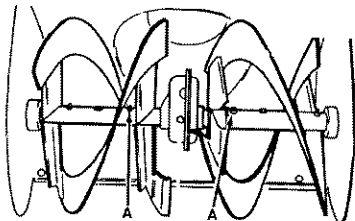

Figure 27
1. **Auger Shaft** - Using a hand grease gun, lubricate the auger shaft zerck fittings (**A**) every ten (**10**) operating hours. Each time a shear bolt is replaced, the auger shaft **MUST** be greased. See Figure 27. See **To Replace Auger Shear Bolt** in the **Service and Adjustment** section.